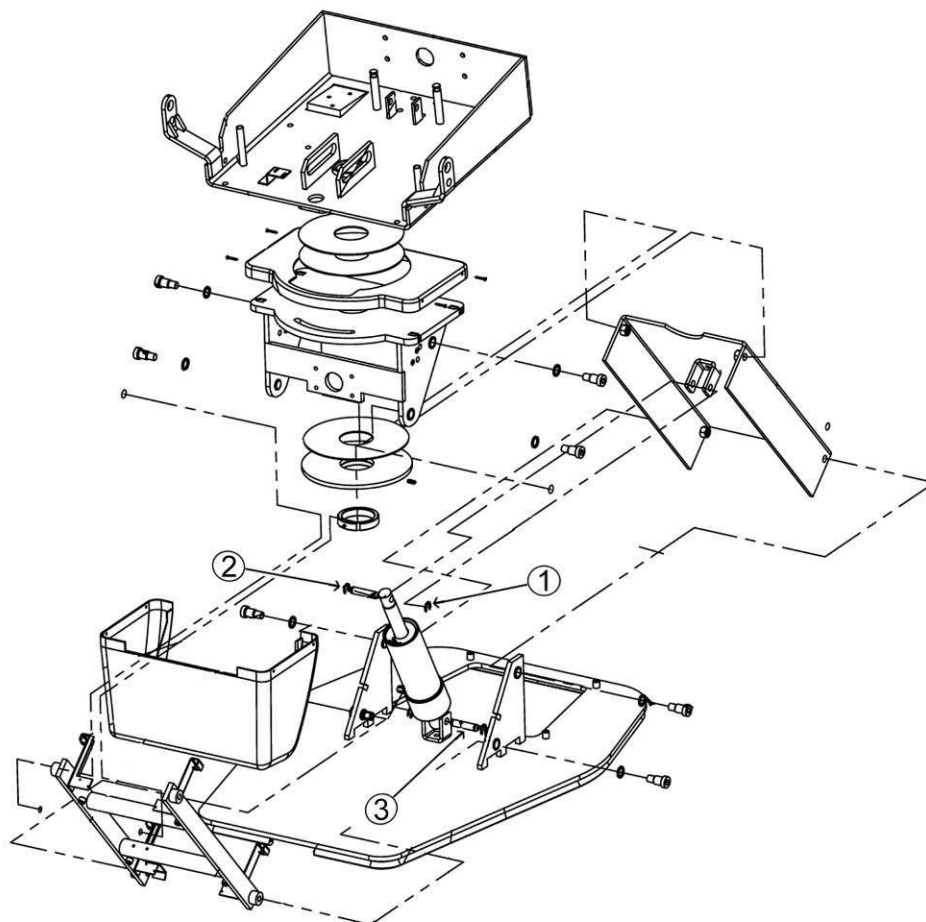

Figure 15
Refer to Figure 15
11. Remove E-Clip on one side of top pin of piston. See figure 15, item 1.
12. Holding base piston. Remove upper pin. See figure 15, item 2.
15. Remove lower piston pin. See figure 15, item 3.